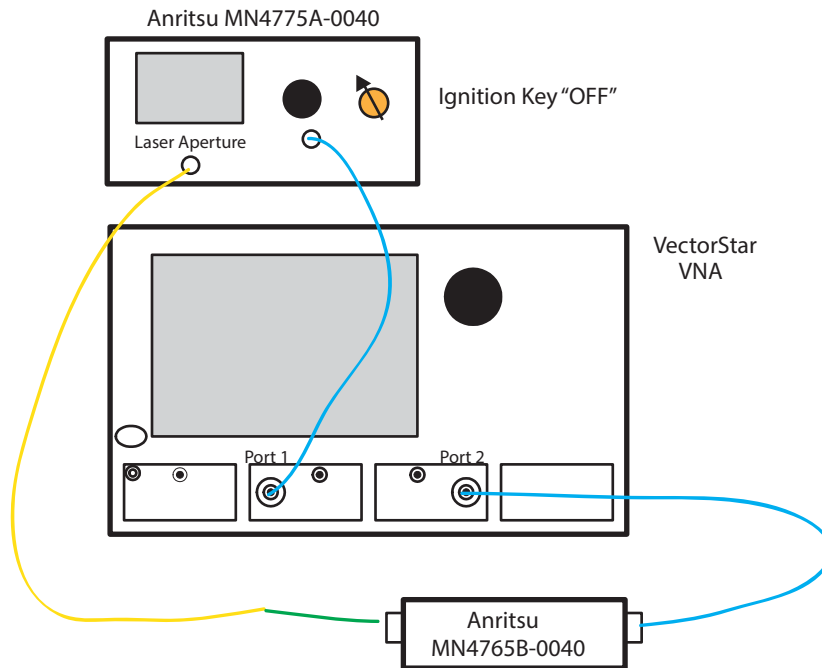

Figure 3-31. Optical Connection to MN4765B-0040
3. Connect **Yellow-colored** end of optical patch cable to MN4775A-0040 E/O Converter as shown in Figure 3-31.
4. Connect **Green-colored** end of optical cable to MN4765B-0040 as shown in Figure 3-31.
5. Connect the VNA Port 1 to Anritsu MN4775A-0040 E/O Converter RF Input as shown in Figure 3-31.
6. Connect Anritsu MN4765B-0040 O/E Module Output to VNA Port 2 as shown in Figure 3-31.